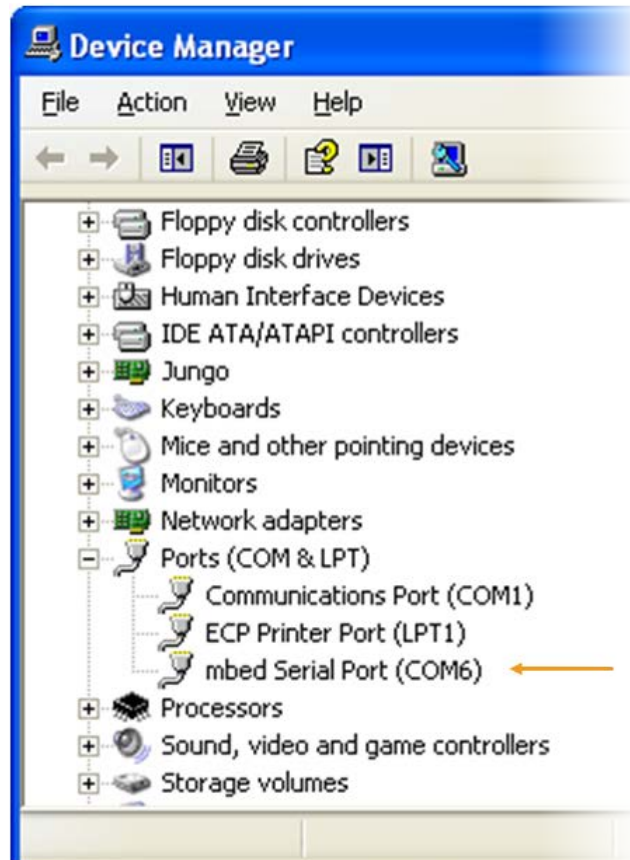

Figure 3. COM port associated with the MT7686 HDK
- 3) In **Device Manager**, navigate to **Ports (COM & LPT)** (see Figure 3).
- 4) A new **COM** device should appear under **Ports (COM & LPT)** in **Device Manager**, as shown in Figure 3. Note the **COMx** port number of the serial communication port, this information is needed to send command and receive logs from the COM port. Virtual COM port is connected to the board through the **UART0** of the chipset, see section 4.5, “Extension connectors”. The **mbed Serial Port (UART0)** is applied to flash the board and log the outputs.